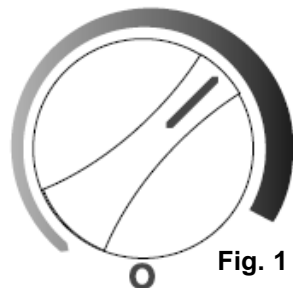

Fig. 1
- When maximum cooling is achieved, turn back the temperature control knob setting to the 2 o'clock position on the graduated blue control dial. See Fig.1.